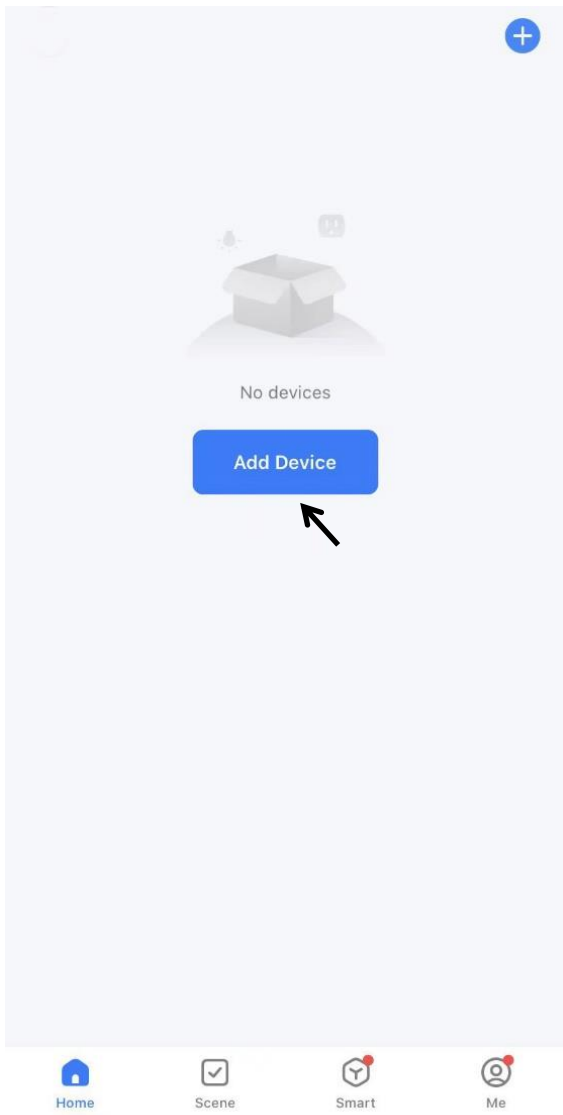

Fig.1
- The unit shall be installed on a flat surface where the air outlet would not be blocked. The required distance around the unit should be at least 30cm. **(Fig.1)**
2. Sign up or log in to your account on the APP. Tap the “+” at top right corner or button “Add Device” to add your device. (Fig.1)